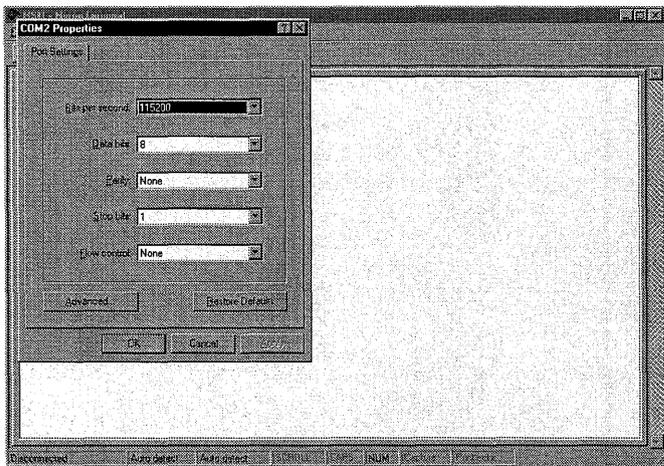

Figure 24
6. A “COMx Properties” box will appear. Select 115200 bits per second, 8 data bits, one stop bit, no parity, none for flow control. Click OK. (see figure 24 below).